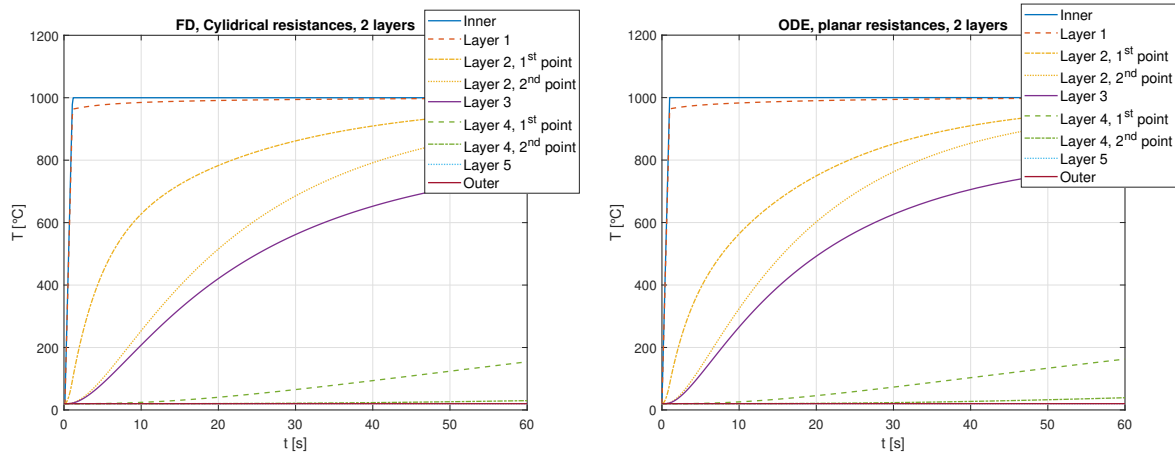

Figure 16: Comparison between finite differences and ODE with 2 nodes per capacitance layer.
3) Since 2 nodes are requested for the conductor and the insulator, the resistance of this 2 layers has been divided in 3. It has been reconstructed the integration with finite differences and ODE schemes with Equation 6, 7, 8. Results have been shown in Figure 16.